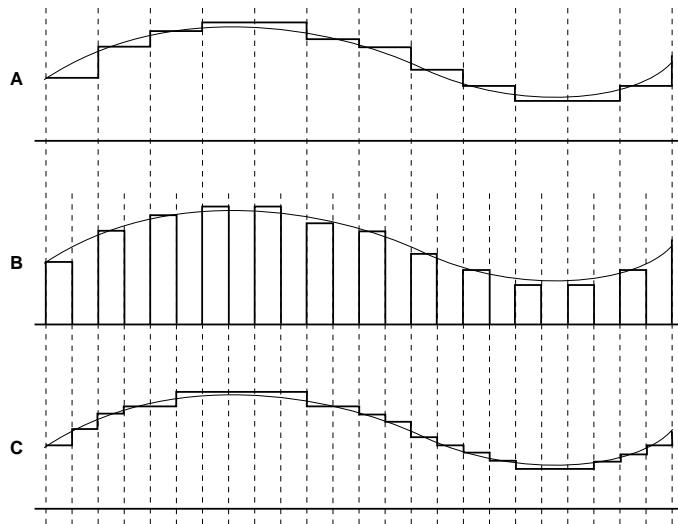

Figure 2 Integer Ratio Up Conversion
For upward sample rate conversion, the converter needs to create new sample values that are evenly spaced between the source samples. This process is called *interpolation*, and is illustrated in Figure 2.
- First, zero-value samples are added between input samples at the new, higher sample rate (Figure 2 B).